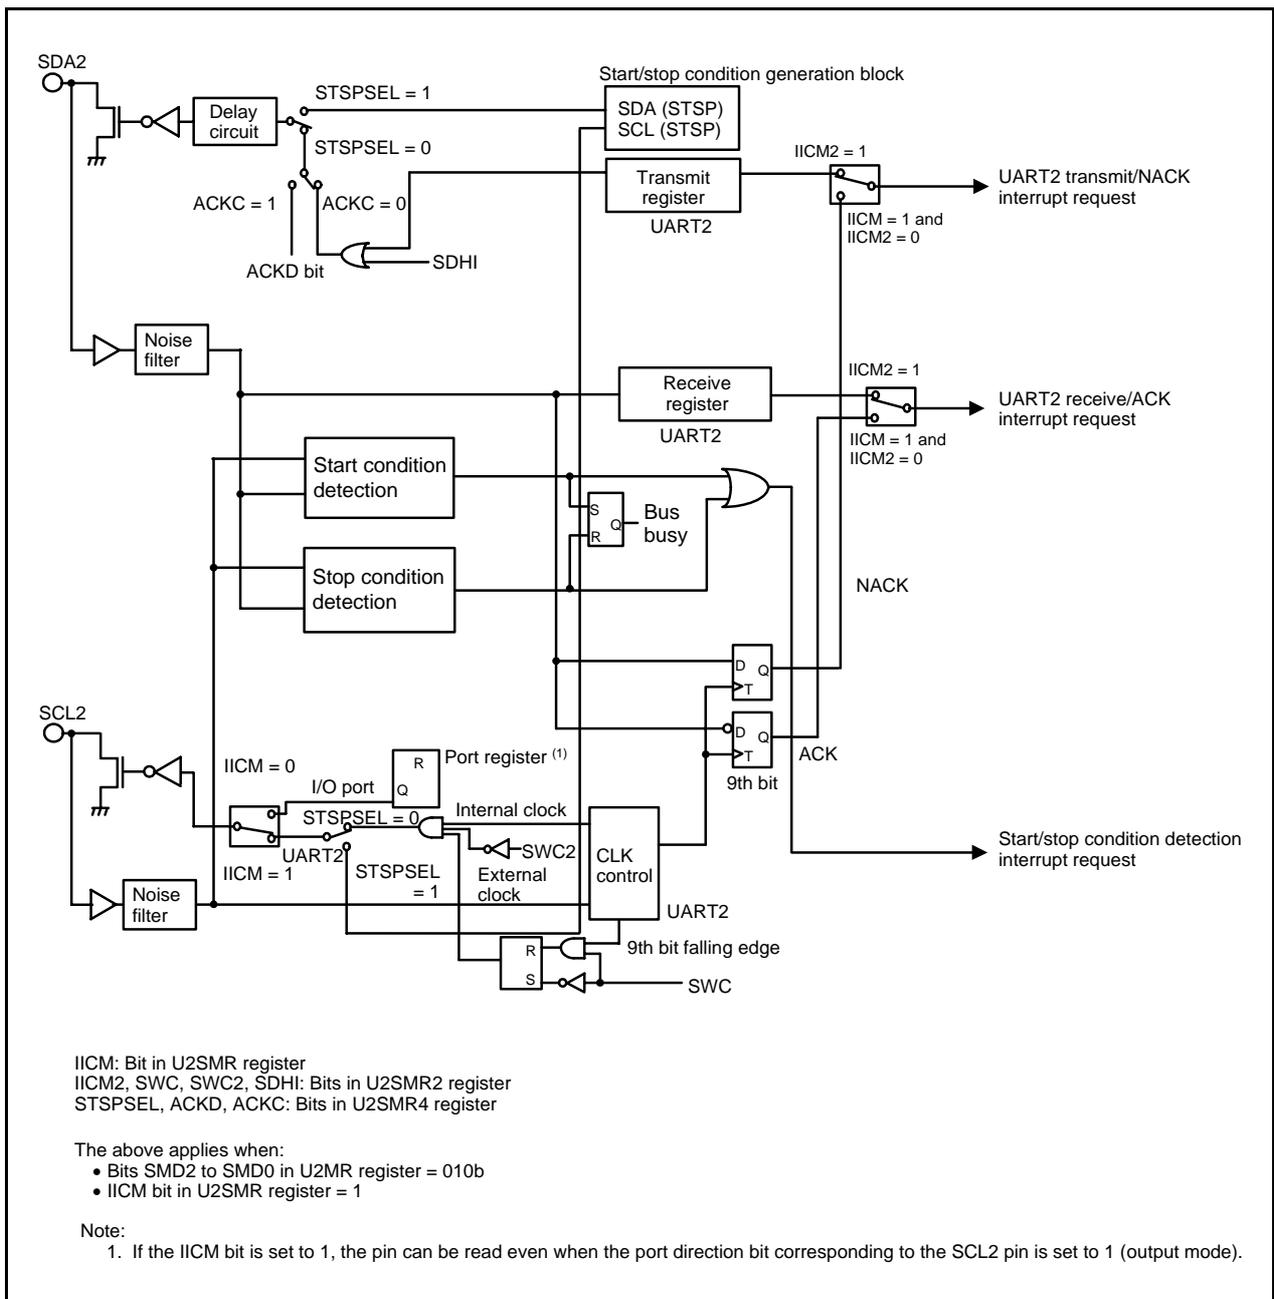
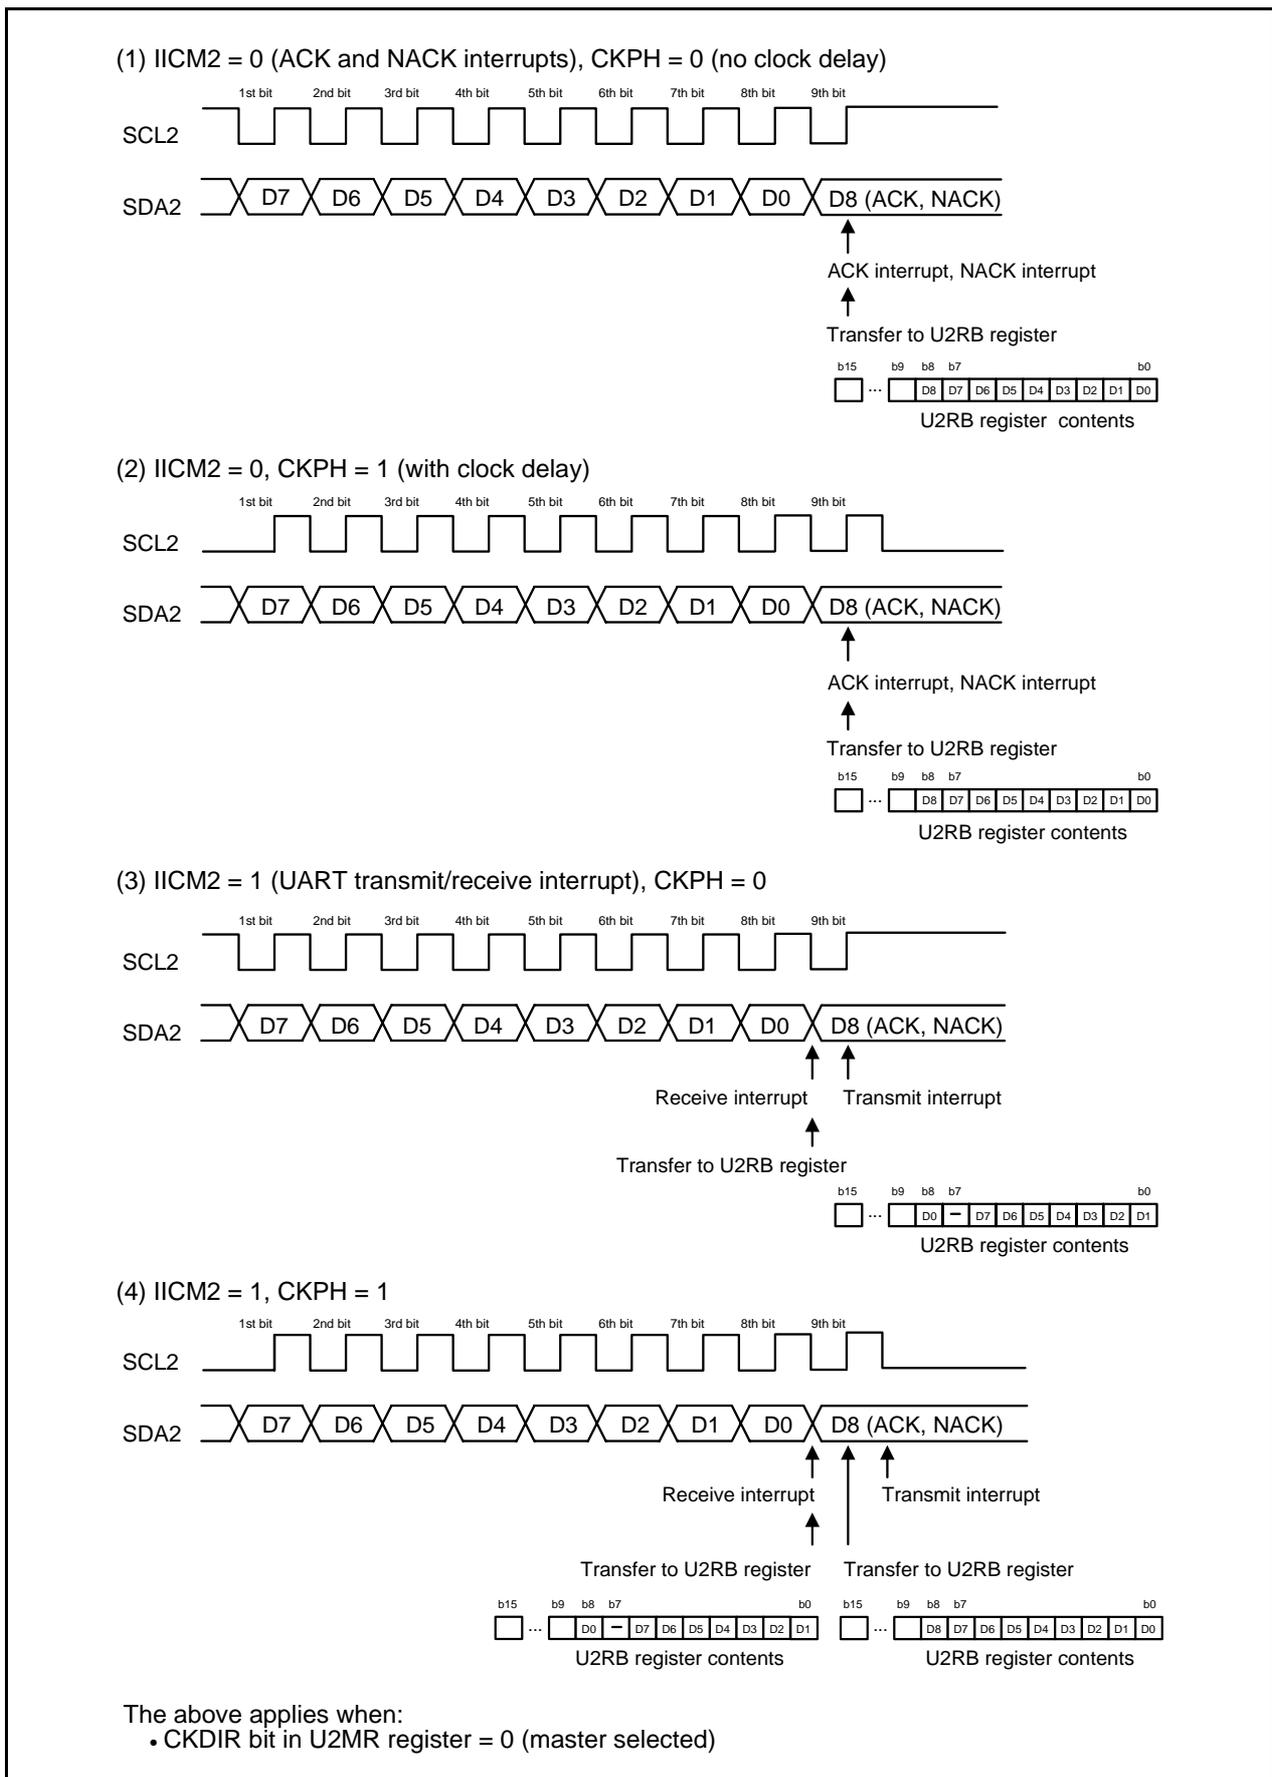

Figure 21.13 I2C Mode Block Diagram
Figure 21.14 Transfer to U2RB Register and Interrupt Timing
I²C mode is provided for use as a simplified I²C interface compatible mode. Table 21.9 lists the I²C Mode Specifications. Tables 21.10 and 21.11 list the registers used in I²C mode and the settings. Table 21.12 lists the I²C Mode Functions, Figure 21.13 shows an I²C Mode Block Diagram, and Figure 21.14 shows the Transfer to U2RB Register and Interrupt Timing.
- Refer to **Figure 21.14 Transfer to U2RB Register and Interrupt Timing**.
The transfer clock is used to transmit and receive data as is shown in **Figure 21.14 Transfer to U2RB Register and Interrupt Timing**.